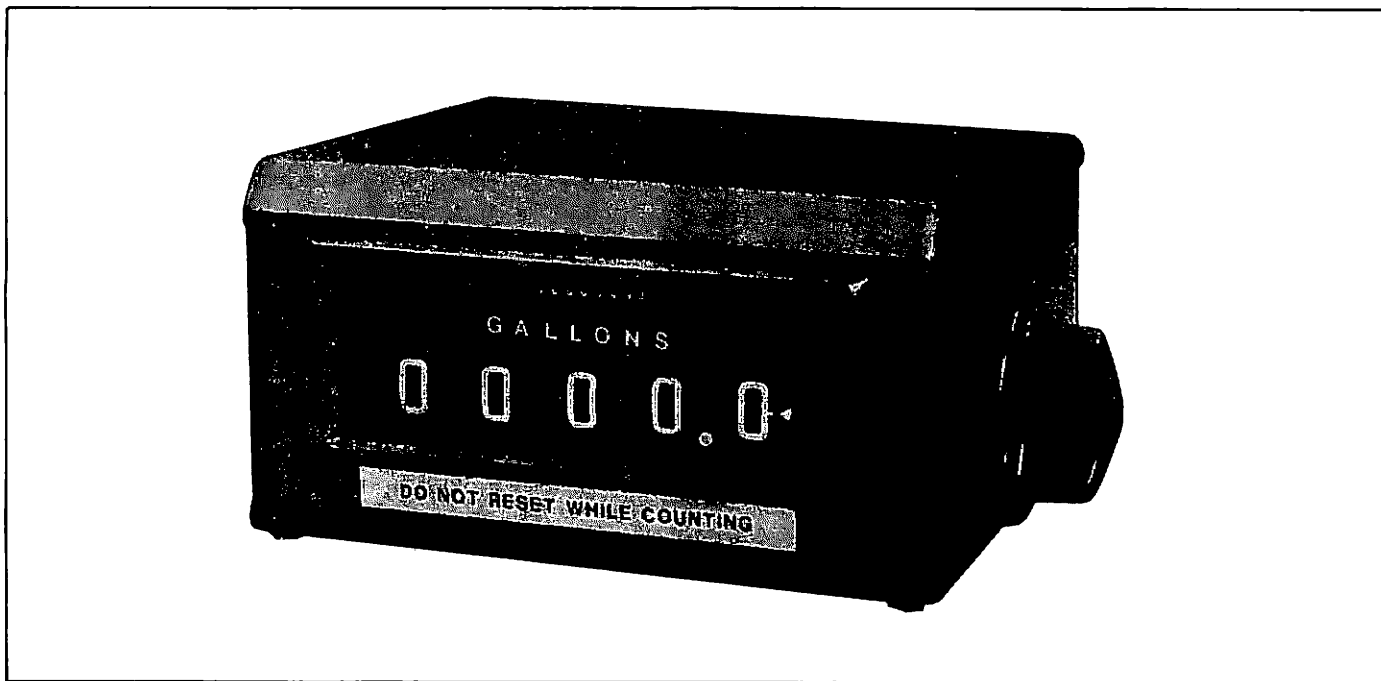

Figure 1. External View of Series 7887 Meter Register.
1. Physical. The Series 7887 Meter Register, Figure 1, displays a running account, final total and accumulated total of the quantity of liquid product delivery. Contained in a 4" x 10" diecast enclosure, individual delivery data is displayed on five 3/4" high figures while totalizer information is recorded on eight 1/8" high figures. Reset of the Meter Register is accomplished through a reset knob on the right-hand side of the unit.